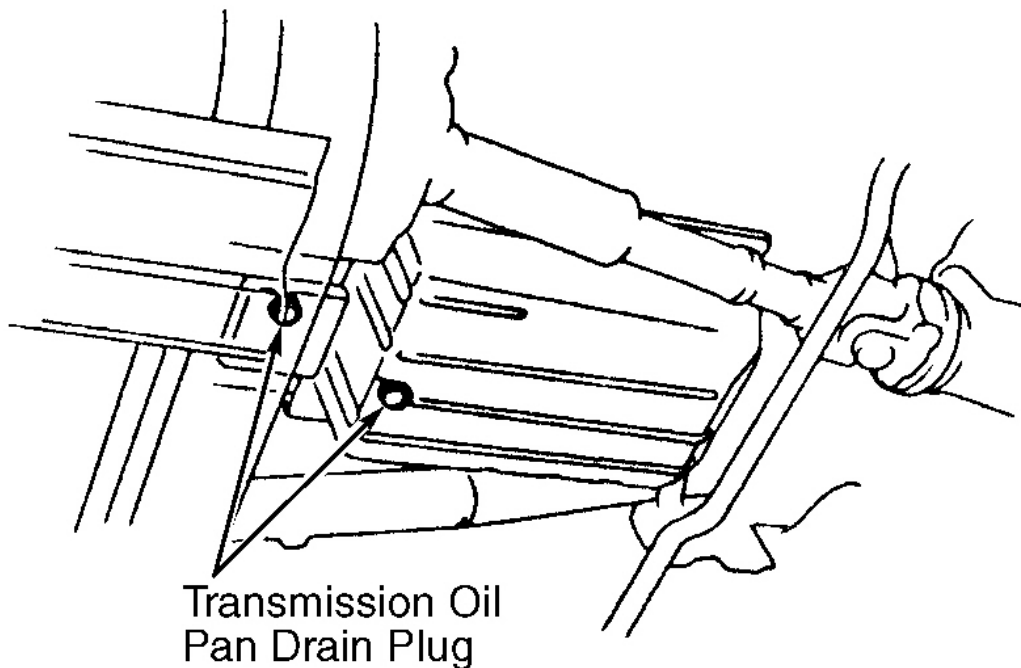

Fig. 4: Identifying Transmission Oil Pan Drain Plugs (Pickup 4WD With 3.0L V6 & 1995 4Runner 4WD With V6)
1. Remove transmission oil pan drain plugs from transmission. See **Fig. 4** . Allow fluid to fully drain. If replacing transmission oil strainer, remove transmission oil pan and gasket.